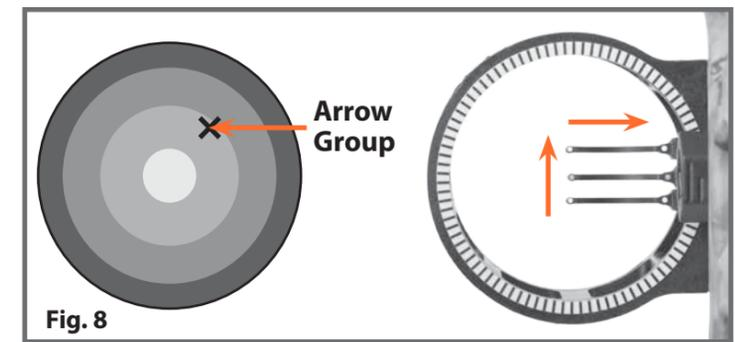

Fig. 8
- To properly sight an arrow in, chase the arrow with the sights. Once you have shot a group of three arrows, determine where the arrows are impacting the target. If you are hitting high and right, move the sight pins high and right to "sight" the bow. If you are hitting low, move the pin down/low to "chase the Arrow. The same if you are hitting left, Chase the Arrow" with the sight pin (see figure 8).